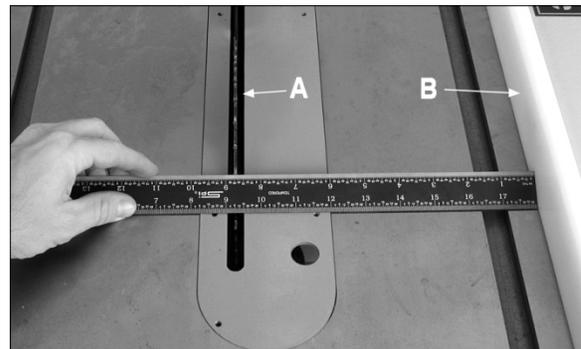

Figure 34
The *rip fence* (A, Fig. 34) should be set for the width of the cut by using the scale on the front rail, or by measuring the distance between blade (A) and fence (B). Stand out of line with saw blade and workpiece to avoid sawdust and splinters coming off the blade or a potential kickback.